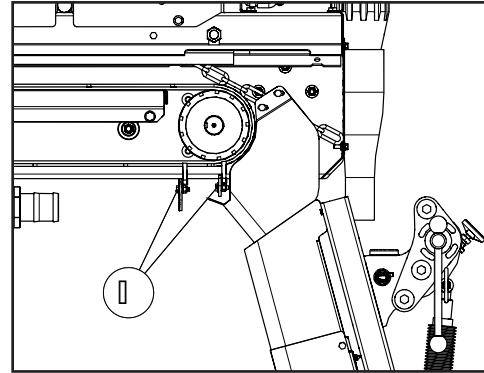

Figure 4
1. Figure 4 - Loosen brush hardware (A).